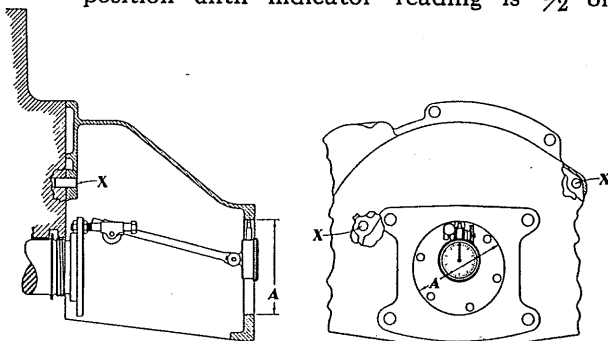

Fig. 9
4. Attach indicator as shown and check bore "A." Flywheel and clutch housing is doweled to crankcase at "X" and when correctly aligned runout of bore "A" should not exceed .005" total indicator reading. (See Figure 9.)